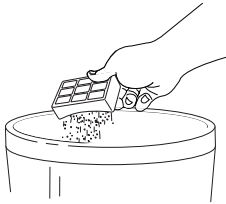

Fig. 21
- 3 Turn the filter over so that the dirty side is on the bottom and vigorously tap it clean against a garbage can to remove any dust. (Fig. 21)